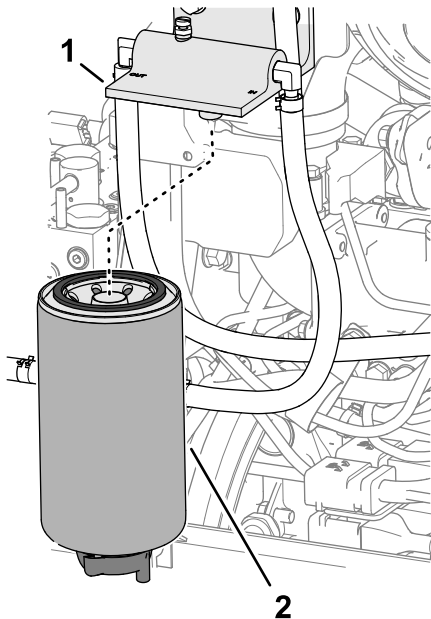

Figure 81
2. Clean the fuel-water separator filter and filter head (Figure 81).